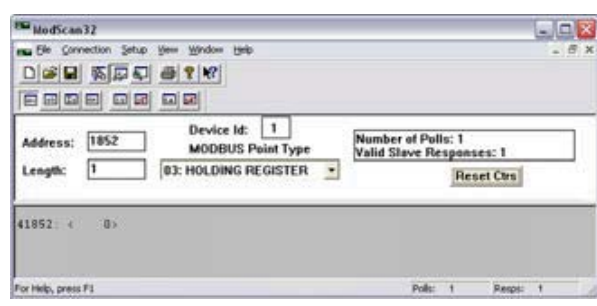

Fig. 283: Modscan32 at address 41852
- ➔ Set the configuration to address parameter 1851 as shown in (Fig. 283).